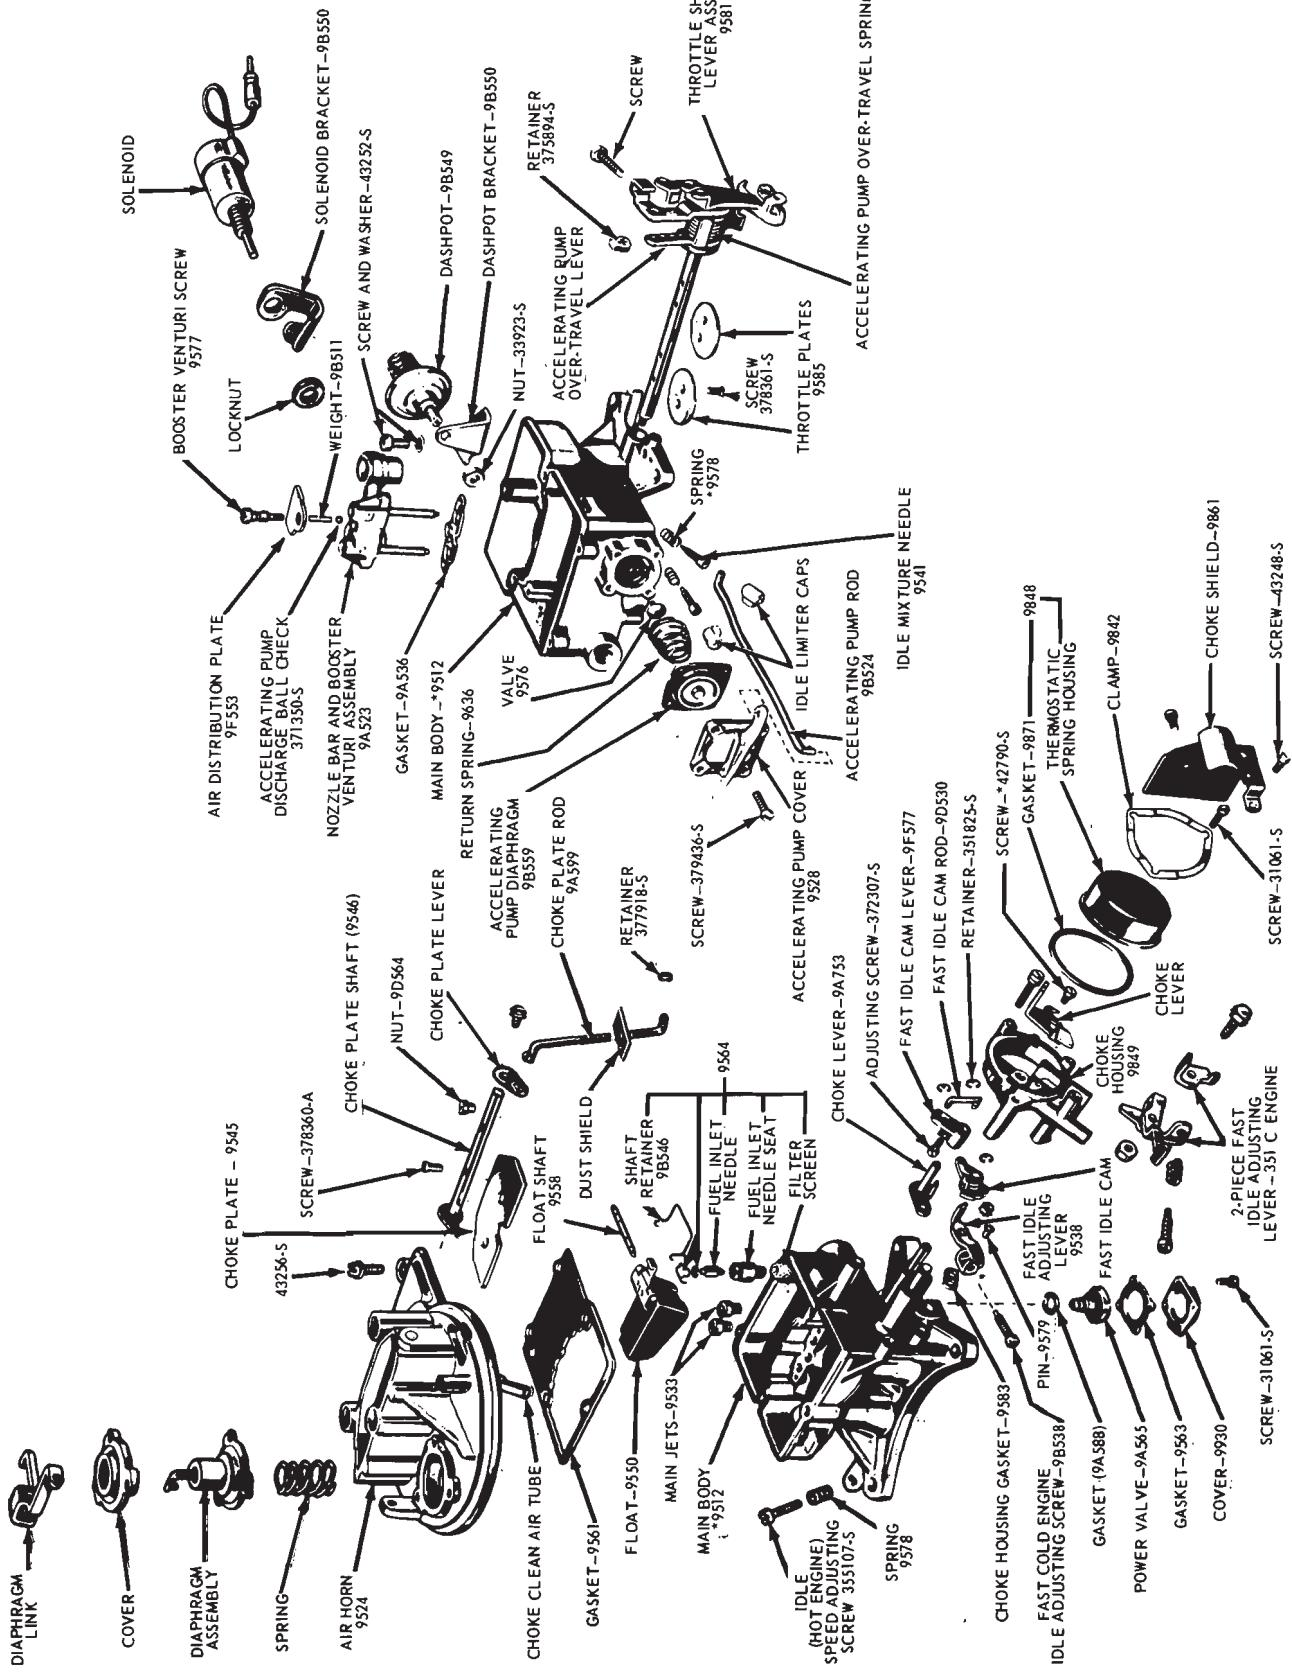

FIG. 17.—Autolite Model 2100-D 2-V Carburetor Assembly
The Autolite Model 2100-D 2-V carburetor assembly is shown in Fig. 17.
11. Install the idle mixture adjusting screws (needles) and springs (Fig. 17). Turn the needles gently with the fingers until they just touch the seat, then back them off $1\frac{1}{2}$ turns for a preliminary idle fuel mixture adjustment. Do not install the idle mixture limiters at this time. Install the power valve cover and new gasket. The power valve cover must be installed with the limiter stops on the cover in position to provide a positive stop for the tabs on the idle adjusting limiters.
Refer to Fig. 17 for the correct location of the parts.